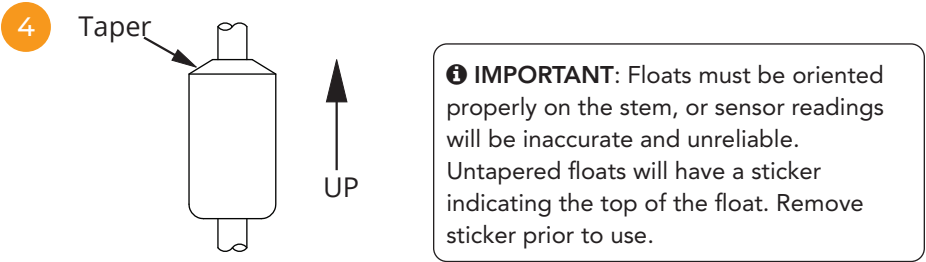

FIGURE 5.1
- The float(s) is/are oriented properly on the stem (See Figure 5.1 below). MPX-F floats are installed by customer.